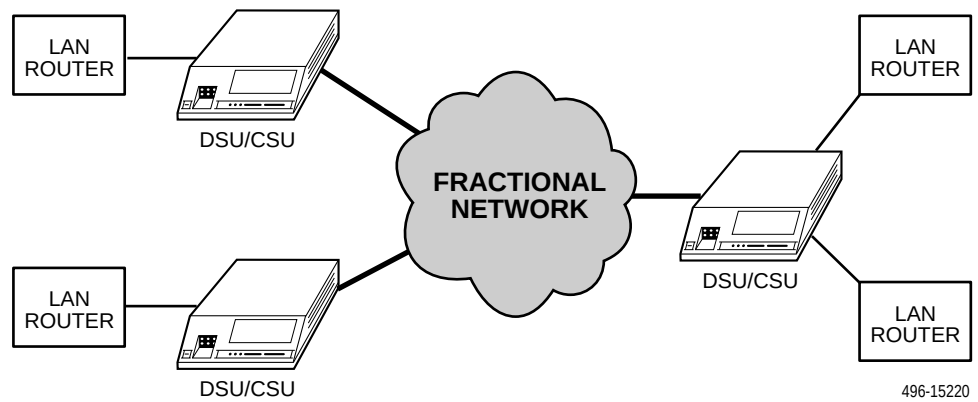

Figure 2-3. Fractional T1 Application Example
- Fractional T1 network applications (Figure 2-3, Fractional T1 Application Example).